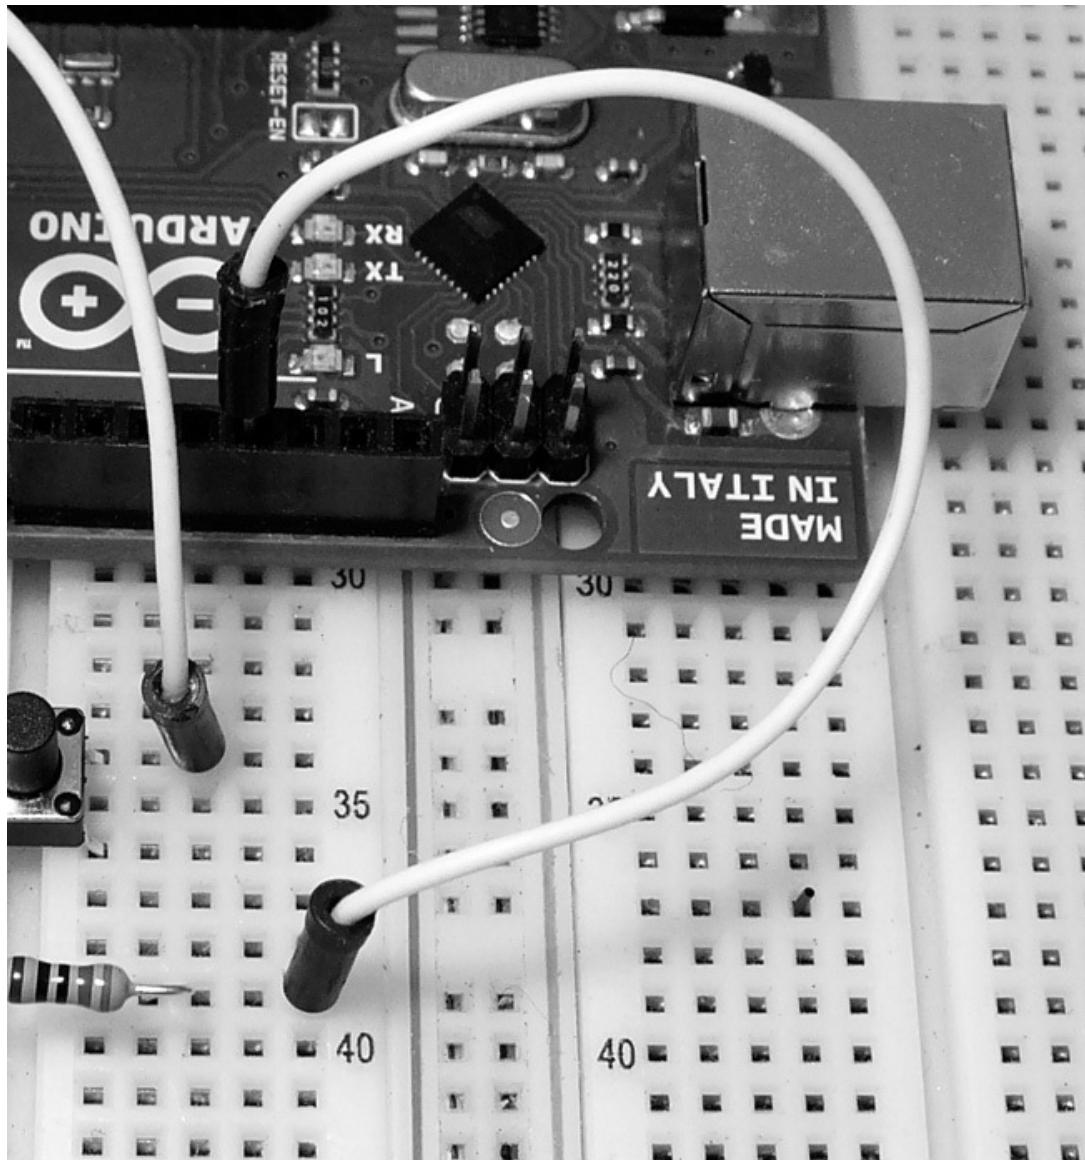

Figure 4-25. Connecting the LED branch to the Arduino
6. Connect a wire from the right side of the $560\ \Omega$ resistor to Arduino digital pin 12, as shown in Figure 4-25.